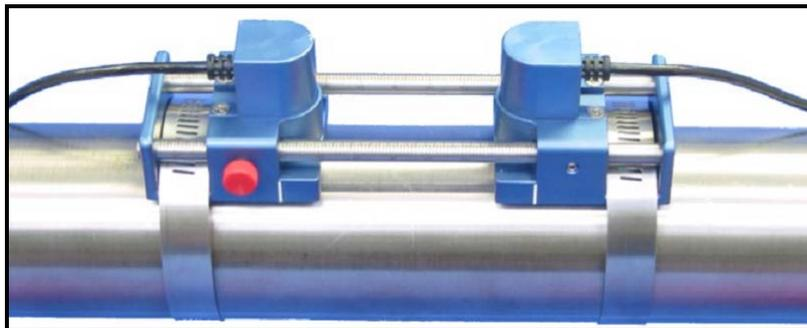

Figure 7: A Typical Transducer Installation
2. Put the transducer fixture at the desired location on the pipe. Secure it with the supplied stainless steel clamps. Figure 7 below illustrates a typical installation.